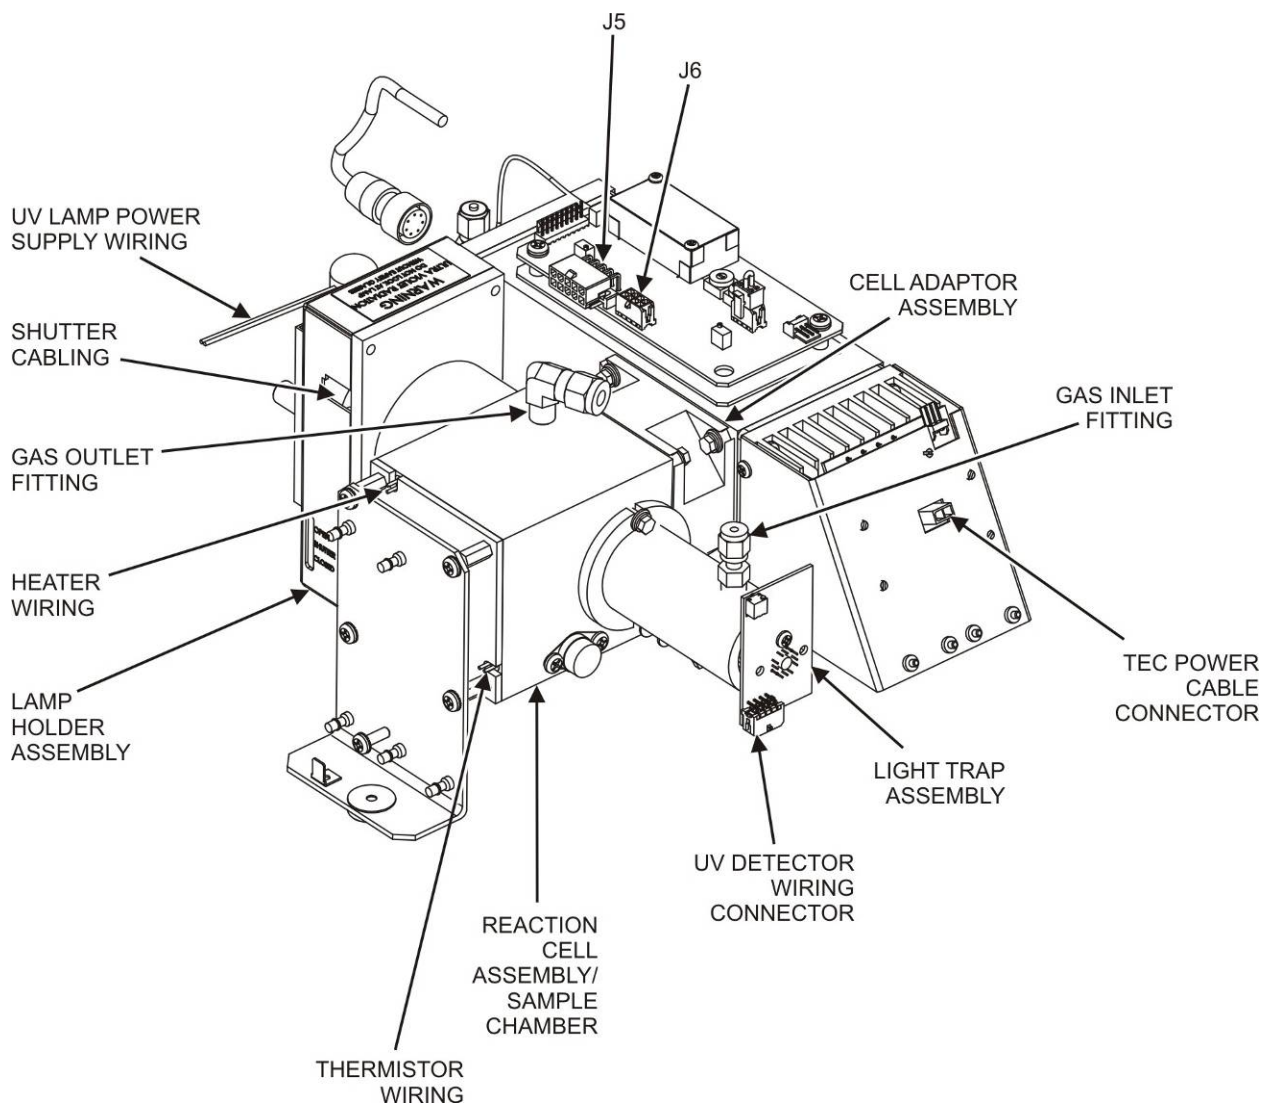

Figure 6-19. Sensor Module Wiring and Pneumatic Fittings
3. Disconnect the sensor module pneumatic lines (refer to Figure 6-19)